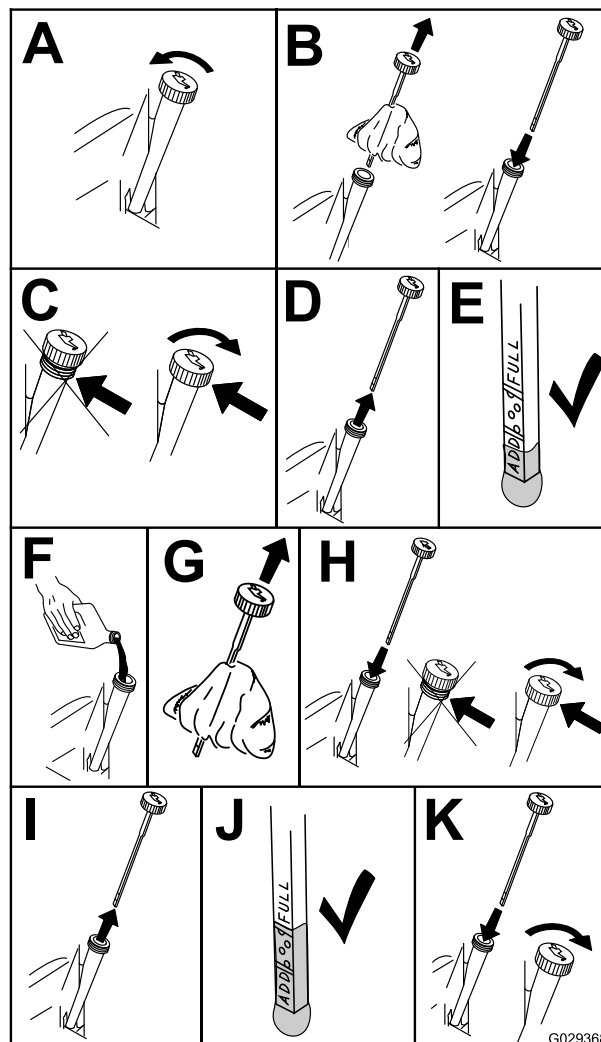

Figure 45
3. To keep dirt, grass clippings, etc., out of the engine, clean the area around the oil-fill cap and dipstick before removing it (Figure 45).